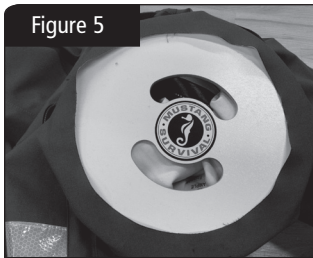

Figure 5
1. With the circle jig still inside the suit, center the jig in the middle of the neck seal opening. You should have about 1" of suit material around the outside of the circle jig. See Figure 5.